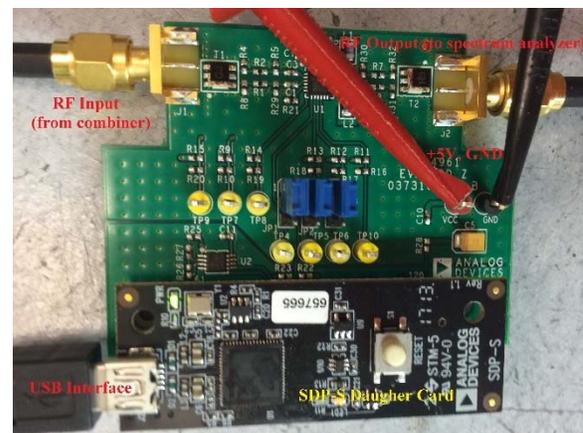

Figure 2. Detail of Connections from Test Equipment and PC to ADA4961 Eval Board
5. Connect the two generator outputs to the input terminals of the Mini-Circuits combiner. The output of the combiner should go to the input SMA connector, J1 on the ADA4961 eval board. The output SMA connector . J2 of the eval board connects to the spectrum analyzer. The details of this, as well as the SDP-S daughter card connection and the USB cable to the PC are shown in Figure 2.
The ADA4961 interfaces with the PC through the SDP-S daughter card interface as described above in Figure 2.
1. Without applying power to the ADA4961 eval board, connect the eval board and the SDP-S daughter card, as shown in Figure 2. Connect the SDP-S USB cable to the PC.